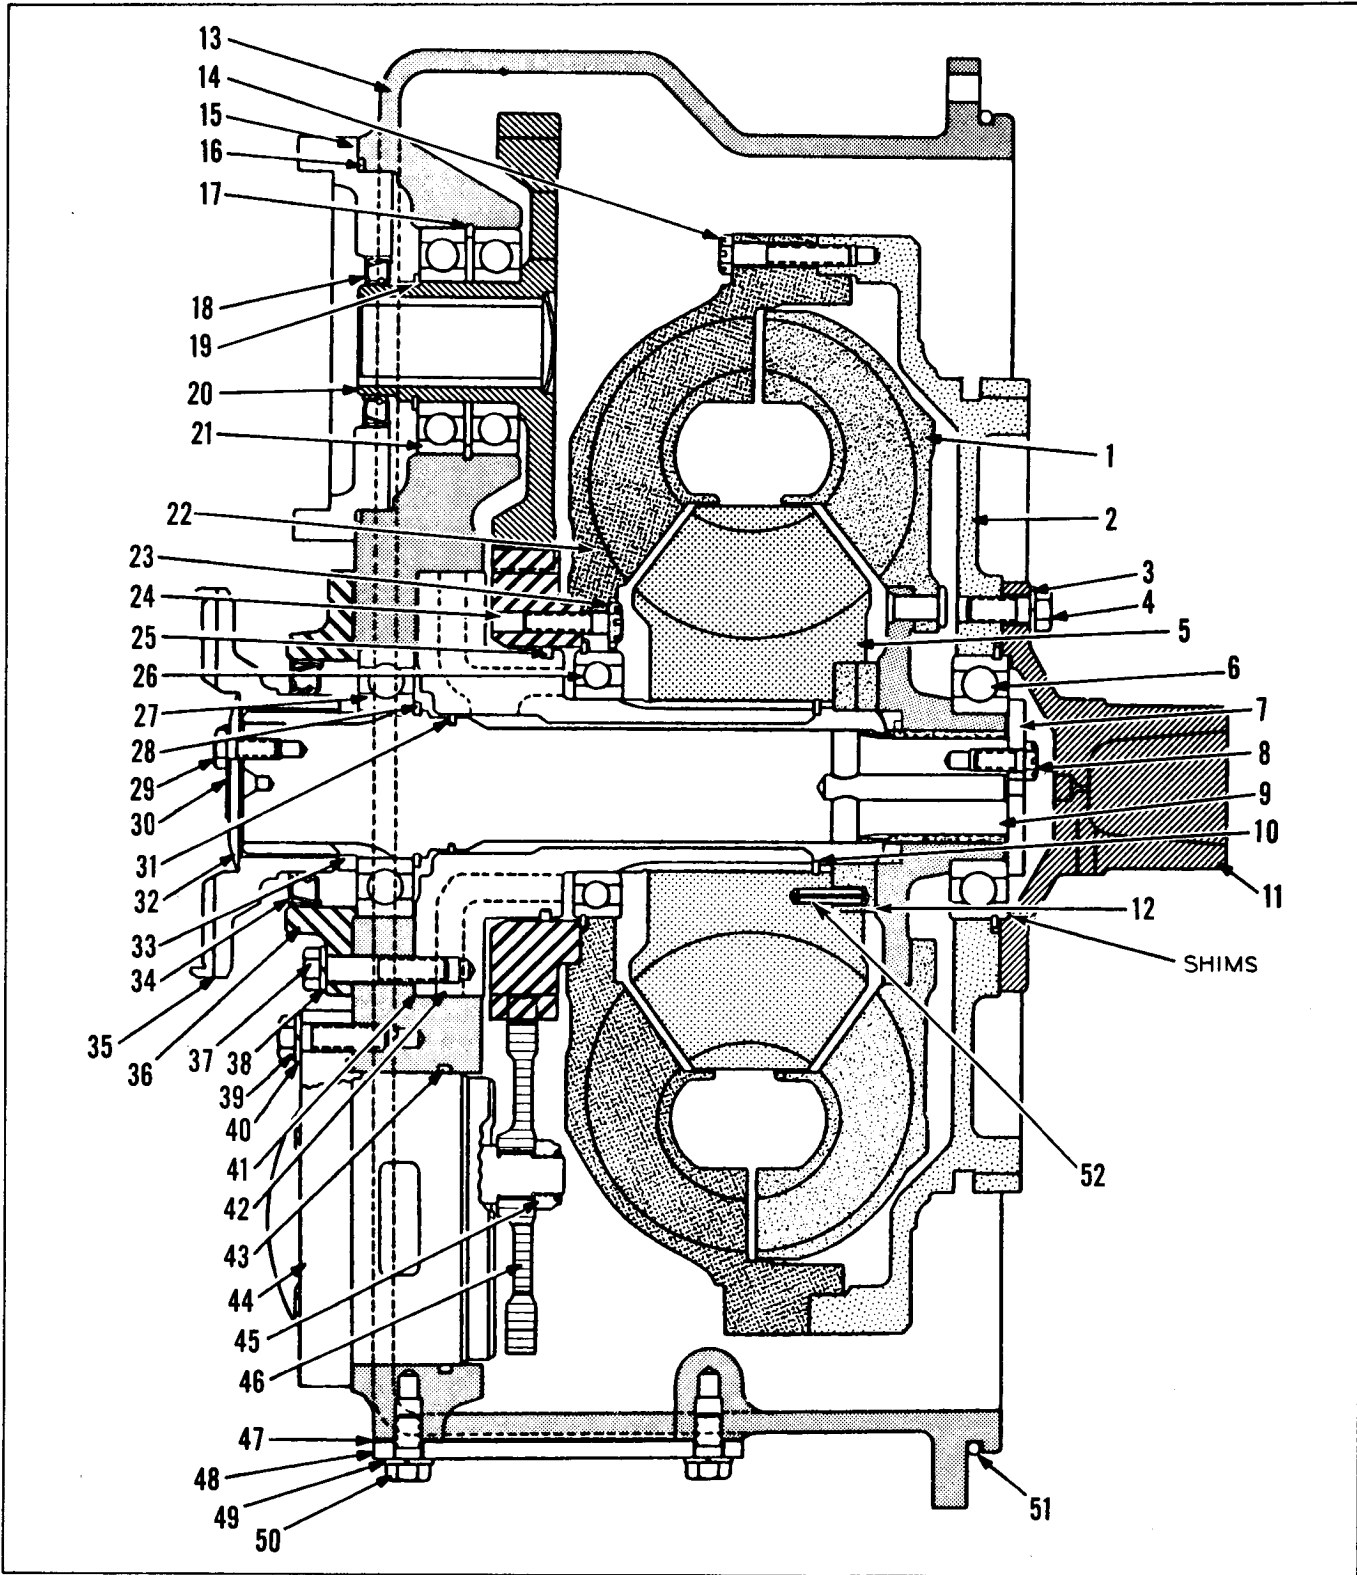

Figure 1-3
As previously stated, this is a three element converter. The elements are impeller, turbine and stator (Fig. 1-3). The impeller is fixed to the engine drive shaft, and turns at engine rpm. It is the input element. The turbine is fixed to an output shaft which, in turn, is attached to the transmission. The turbine is turned by oil flowing from the impeller and is the output element. The stator is fixed to the accessory drive housing and acts as a fulcrum on which torque multiplication becomes possible.
Oil to cool and charge the converter follows a passage through the hub (42, Fig. 1-3) and emerges immediately in front of the forward turbine support bearing. Passing through the bearing the fluid enters the area at the back of the stator (5). A gap between the stator and impeller allows the fluid to enter the base of the impeller. From this point of entrance the fluid begins its circuit through the vaned members.
Legend for Fig. 1-3